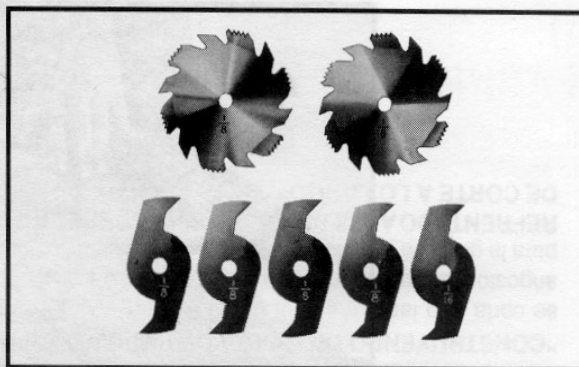
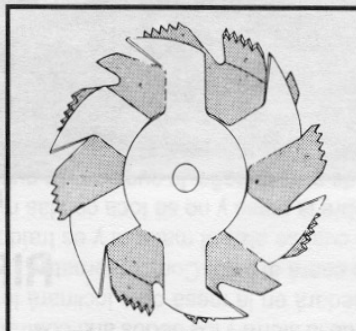
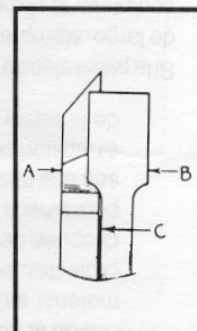

Fig. 52
Fig. 53
Fig. 54
IMPORTANT: DO NOT USE WOBBLE-TYPE DADO HEADS ON YOUR SAW. Use only stackable dado heads, as shown in Fig. 52.
Dadoing is cutting a rabbet or wide groove into the work. Most dado head sets are made up of two outside saw blades and four or five inside cutters, as shown in Fig. 52. Various combinations of saws and cutters are used to cut grooves from 1/8" to 13/16" wide for use in shelving, making joints, tenoning, grooving, etc. The cutters are heavily swaged and must be arranged so that this heavy portion falls in the gullets of the outside saw, as shown in Fig. 53. The saw and cutter overlap is shown in Fig. 54, (A) being the outside saw, (B) an inside cutter, and (C) a paper washer or washers which can be used as needed to control the exact width of groove. A 1/4" groove is cut by using the two outside saws. The teeth of the saws should be positioned so that the raker on one saw is beside the cutting teeth on the other saw.